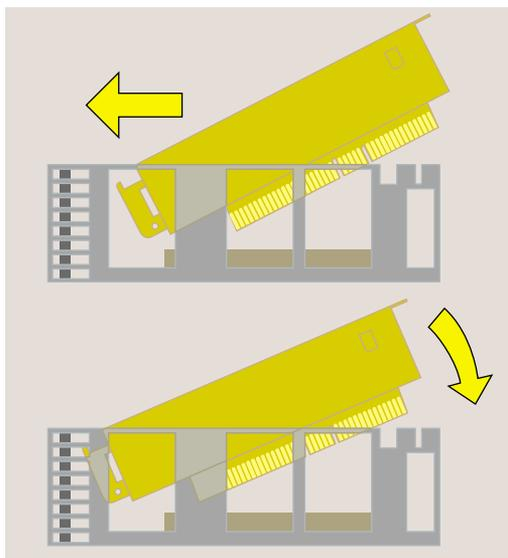

Figure 5-7 Replacing the PCI Tray in the System Module
9. Reinstall the PCI tray in the system module (Figure 5-7).